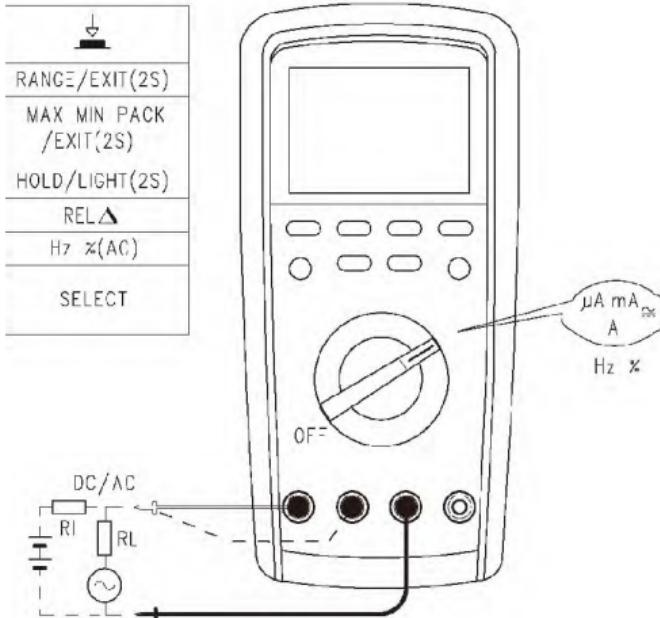

Fig. 10
8. AC/DC measurement (see Fig. 10)
* In mA mode, press and hold "SELECT" to activate the %(4-20mA) measurement function. At that time, the calibrated percentage of the measured current will be displayed: 0% for 4mA; 100% for 20mA. Fig. 10